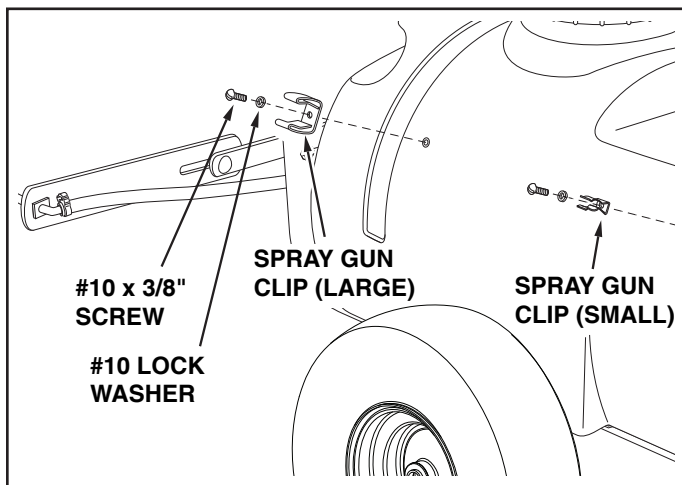

FIGURE 6
10. Assemble the large and small spray gun clips to the side of the tank using two #10 x 3/8" screws and #10 lock washers. See figure 6.